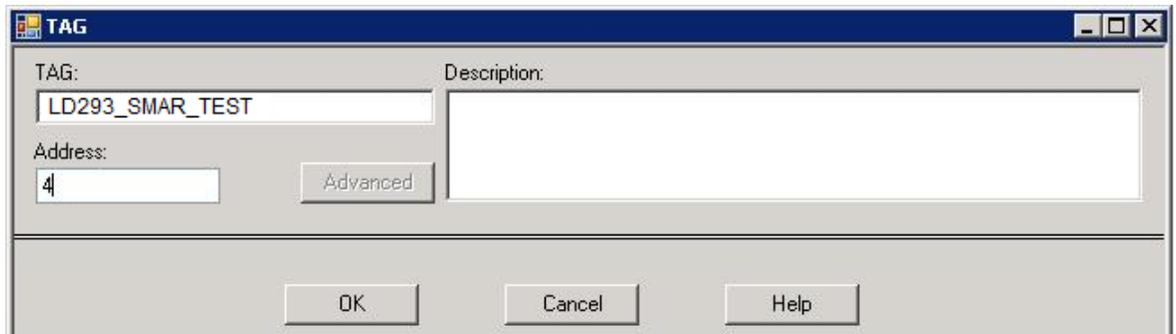
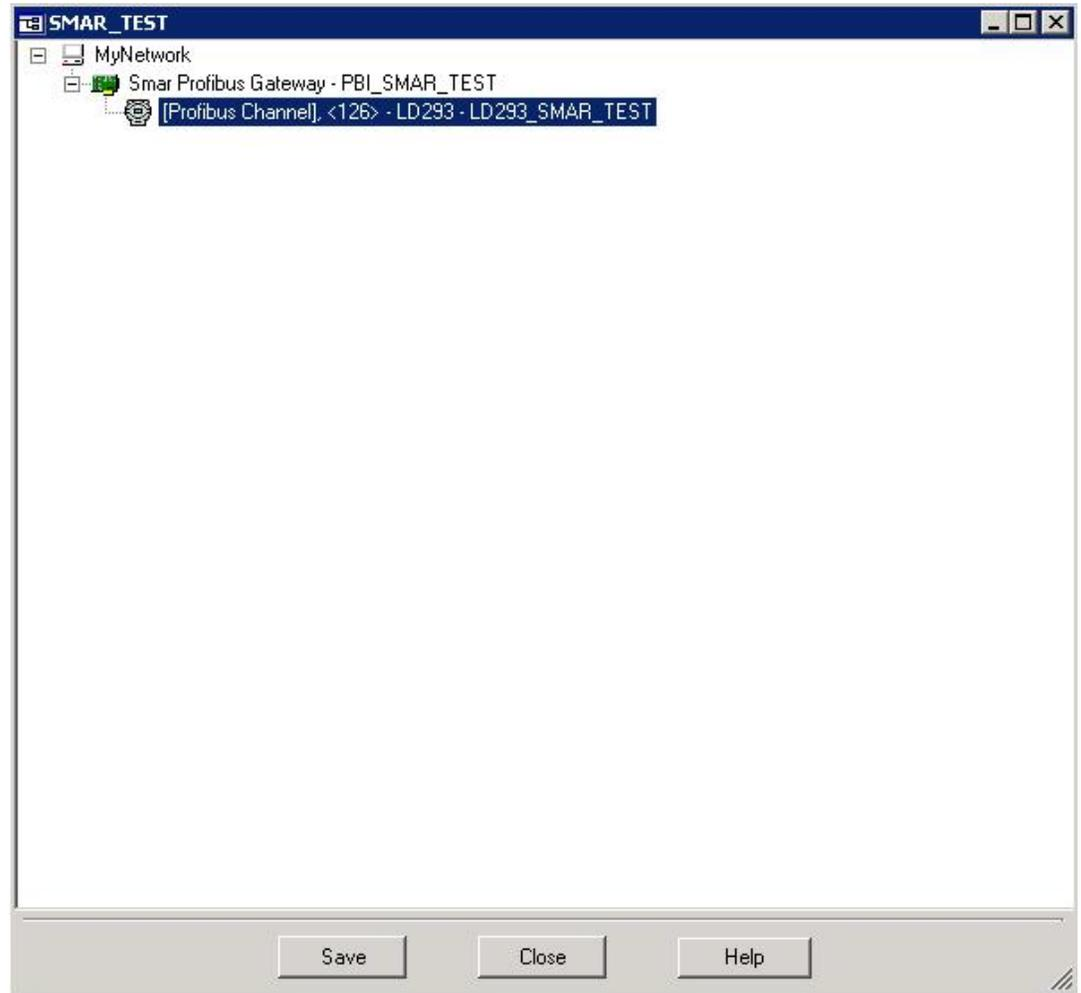

Figure 2.10 – Configuration of AssetView STANDALONE software
Figure 2.11 – Configuration of AssetView STANDALONE software
- 7) Once created, the device shall have an attributed TAG. See Figure 2.10. Then, click “OK”. The device will appear just below the PBI. See Figure 2.11.